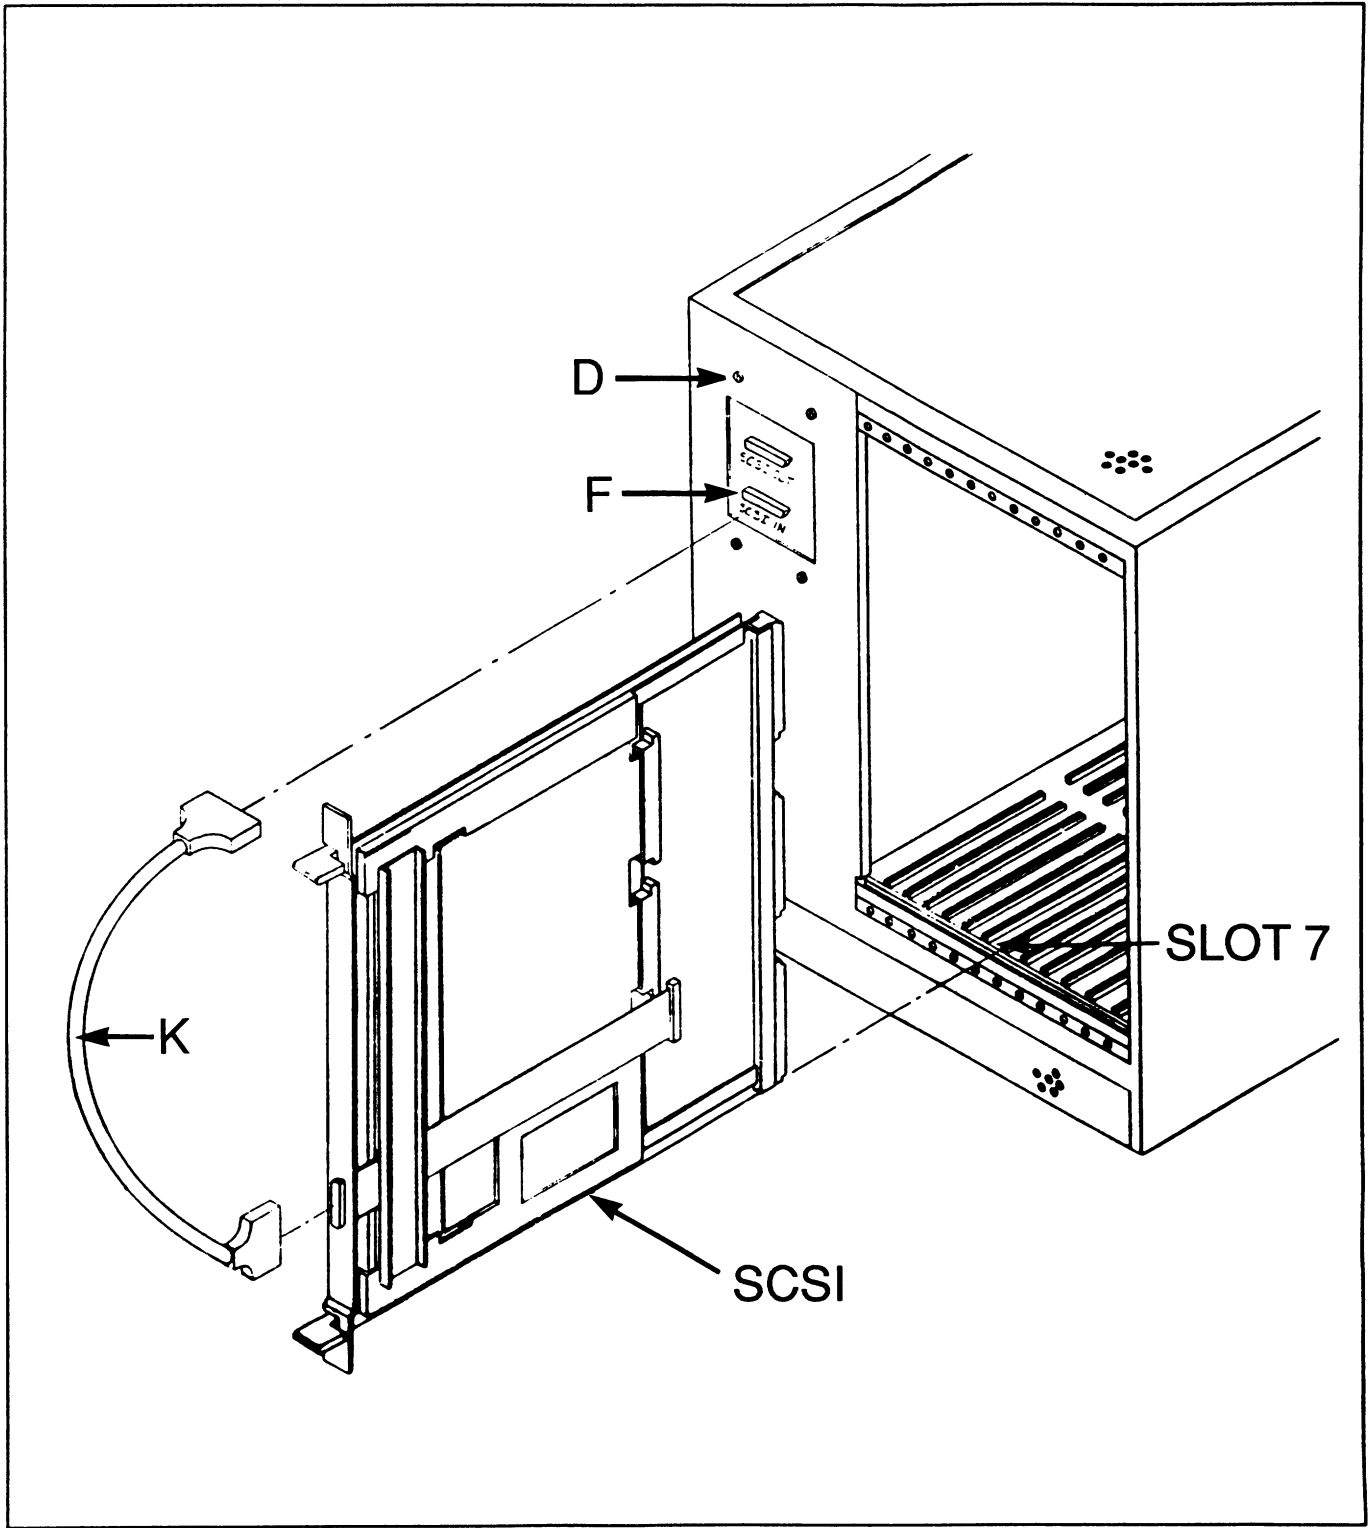

Figure 2-6 Cable Connection
13. Refer to figure 2-6. Connect SCSI data and control cable K to SCSI IN connector on the tape drive assembly. Connect the other end of the cable to the SCSI circuit card in slot 7 of the CPU.
3. Refer to figure 2-6. Remove rack rear bezel panel (not shown) by unlocking four twist lock connectors.